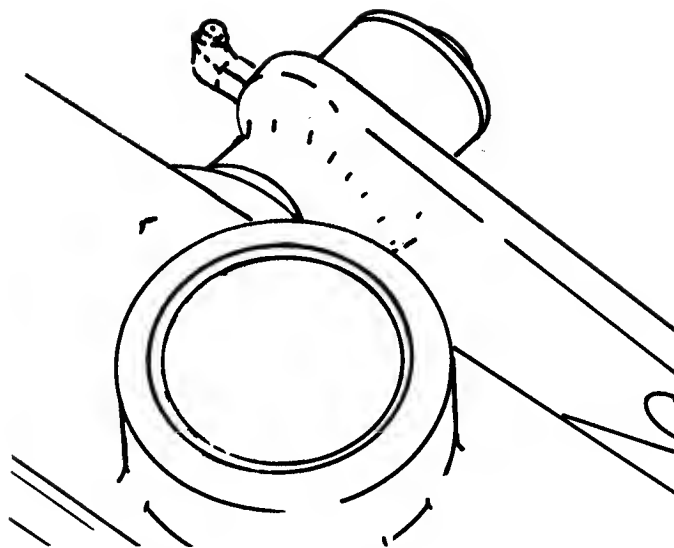

FIG. 2.27 — PIVOT BUSHING IN PLACE
9. Inspect bushings if worn, remove old bushings and install new ones flush with machined surface of axle. Fig. 2.27.